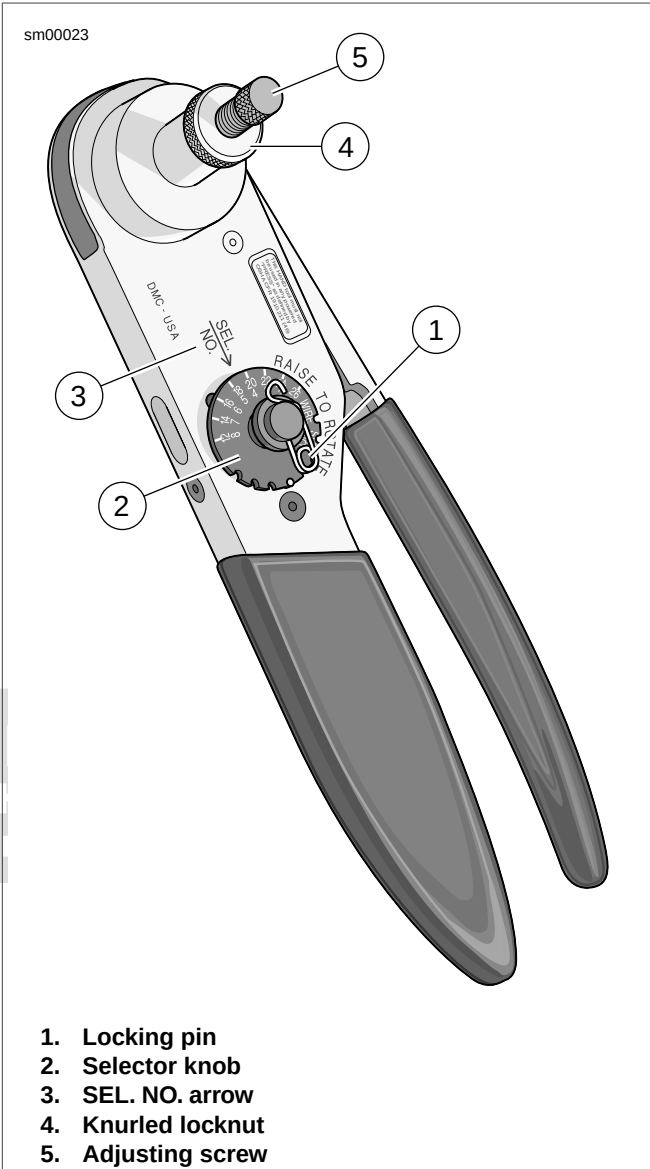

Figure A-34. Electrical Crimper Tool (HD-42879)
1. See Figure A-34. Squeeze the ELECTRICAL CRIMPER TOOL (Part No. HD-42879) handles to cycle the crimp tool to open.
2. Remove locking pin (1) from selector knob (2).
3. Raise selector knob and rotate until selected wire size stamped on wheel is aligned with "SEL. NO." arrow (3).
4. Loosen knurled locknut (4) and turn adjusting screw (5) clockwise (in) until it stops.